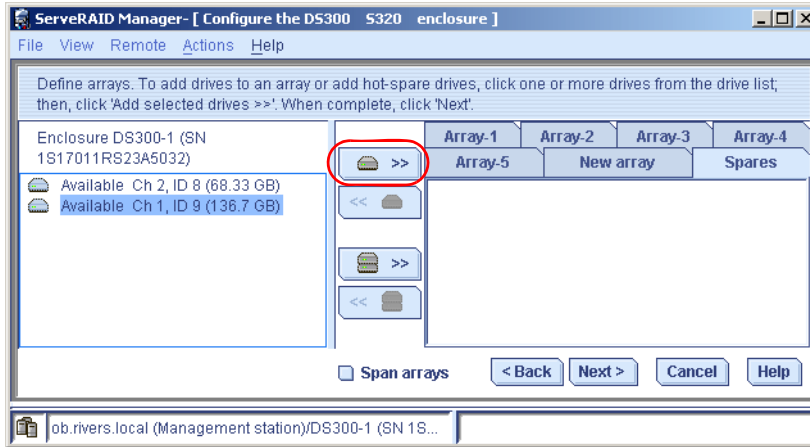

Figure 4-66 Spares tab
11. Select the drive with ID 9 from the enclosure and define this drive as hotspare drive by clicking the **Add selected drives to spare** button. See Figure 4-66 on page 120.